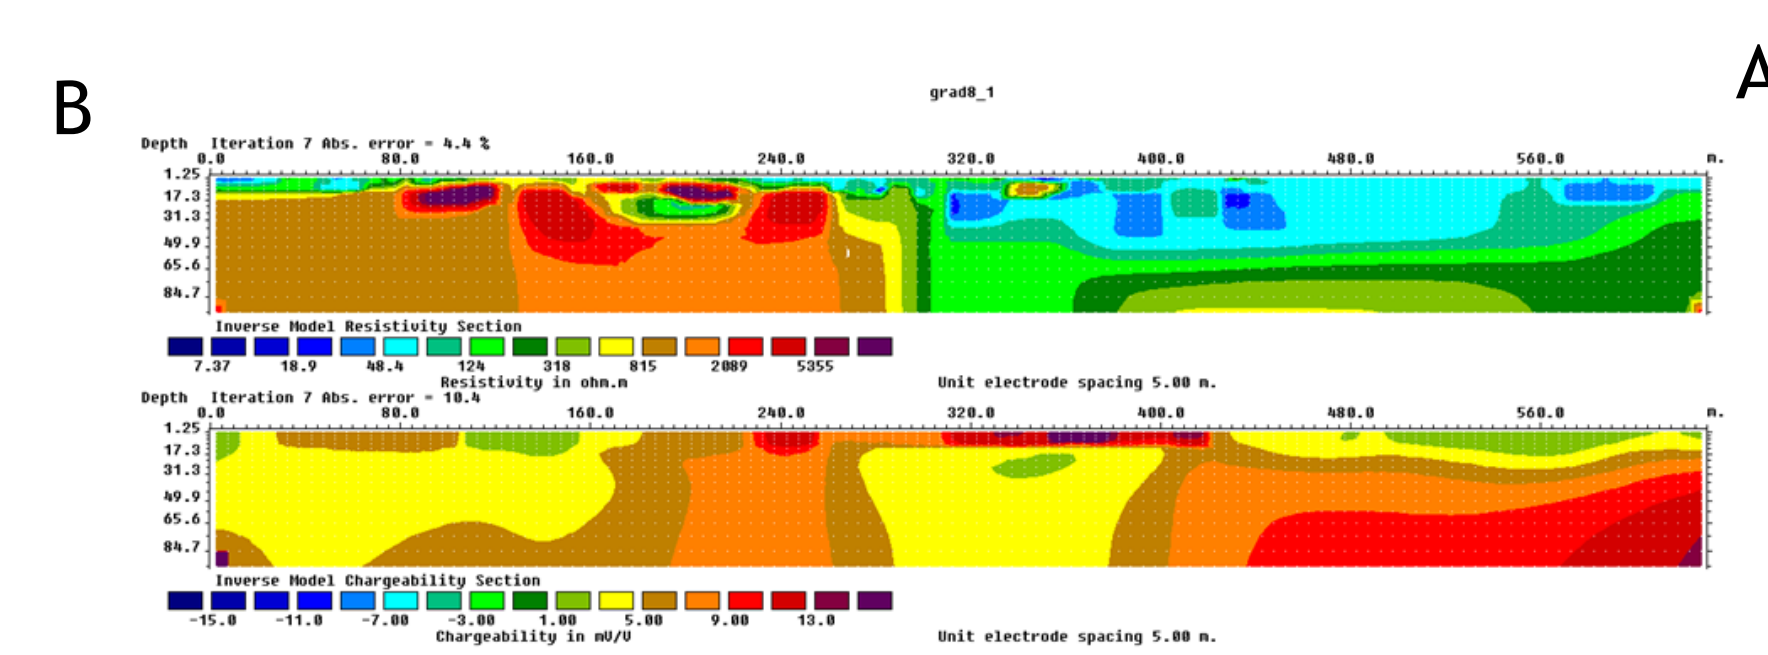

Fig 7: resistivity and chargeability profile
-Electrical methods: resistivity and induced polarization methods (Fig 7)